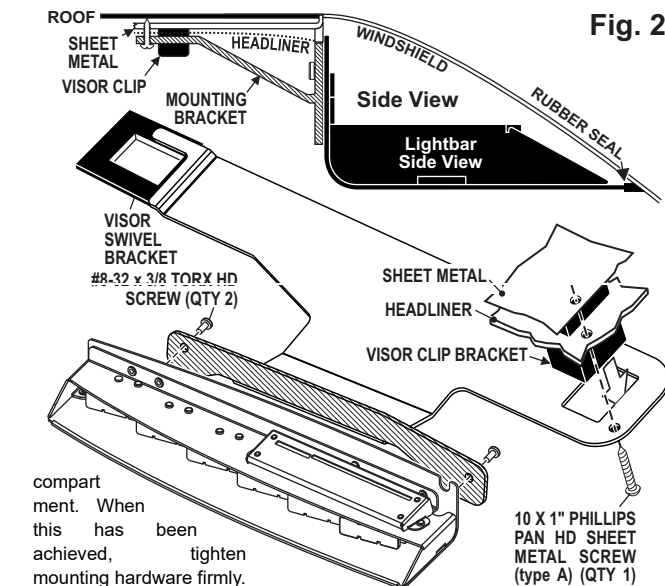

Fig. 2
1. Secure the mounting bracket to the Inner Edge housing using the two #8 - 32 X 3/8 TORX HEAD SCREWS provided (Fig. 2).
3. Slide the outside end of the mounting bracket under the visor swivel bracket (Fig. 2). At the same time slip the rectangular hole in the other end of the mounting bracket over the visor clip bracket. With the mounting bracket in position retighten the visor swivel bracket hardware.
3. On the vehicle **visor clip**, remove the screw holding on the clip and remove the clip. The supplied #8 X 1" sheet metal screw will replace the screw you removed (Fig. 2).